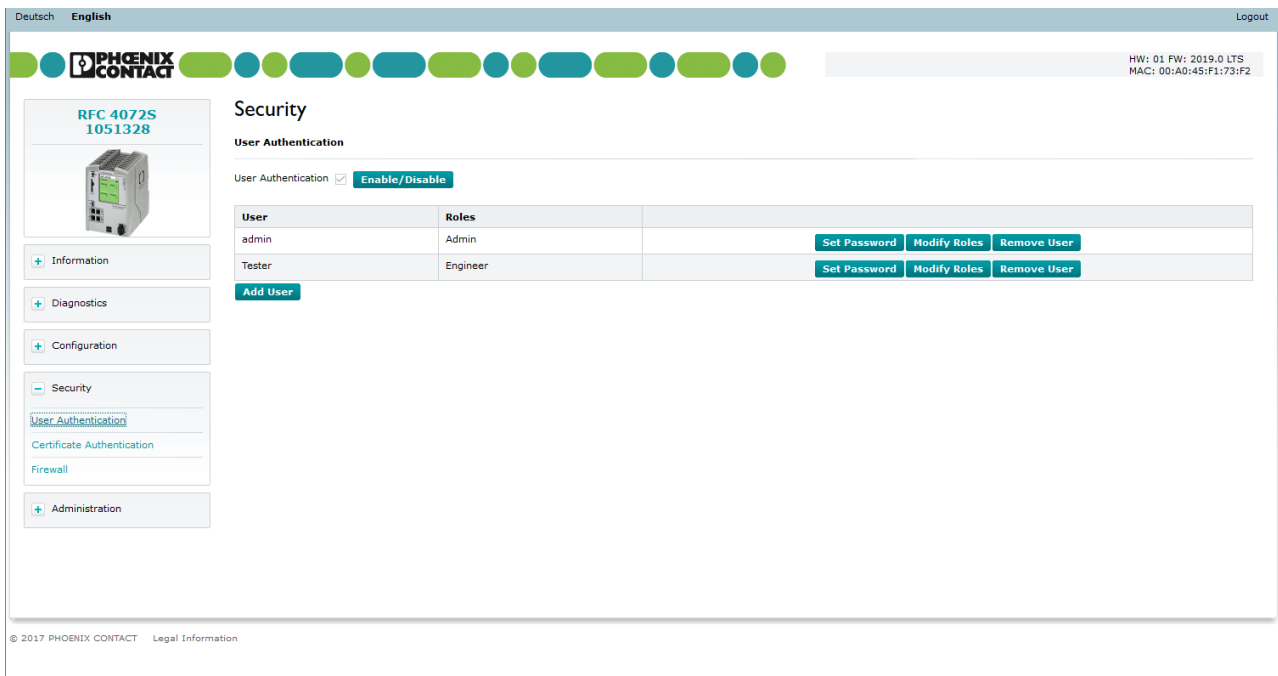

Figure 3-10 WBM: “User Authentication” page
- On the “User Authentication” page, click on the “Modify Roles” button in the line for the desired user (see Figure 3-10 on page 82).